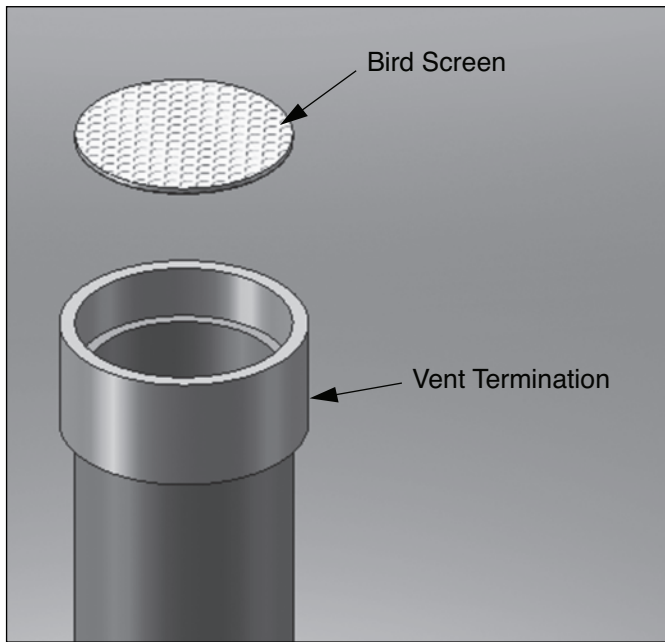

Fig. 3: Vertical Vent Bird Screen Installation
1. The vent and combustion air terminations must include a factory supplied "bird screen" installed as shown in Figs. 3 & 4 on page 16.